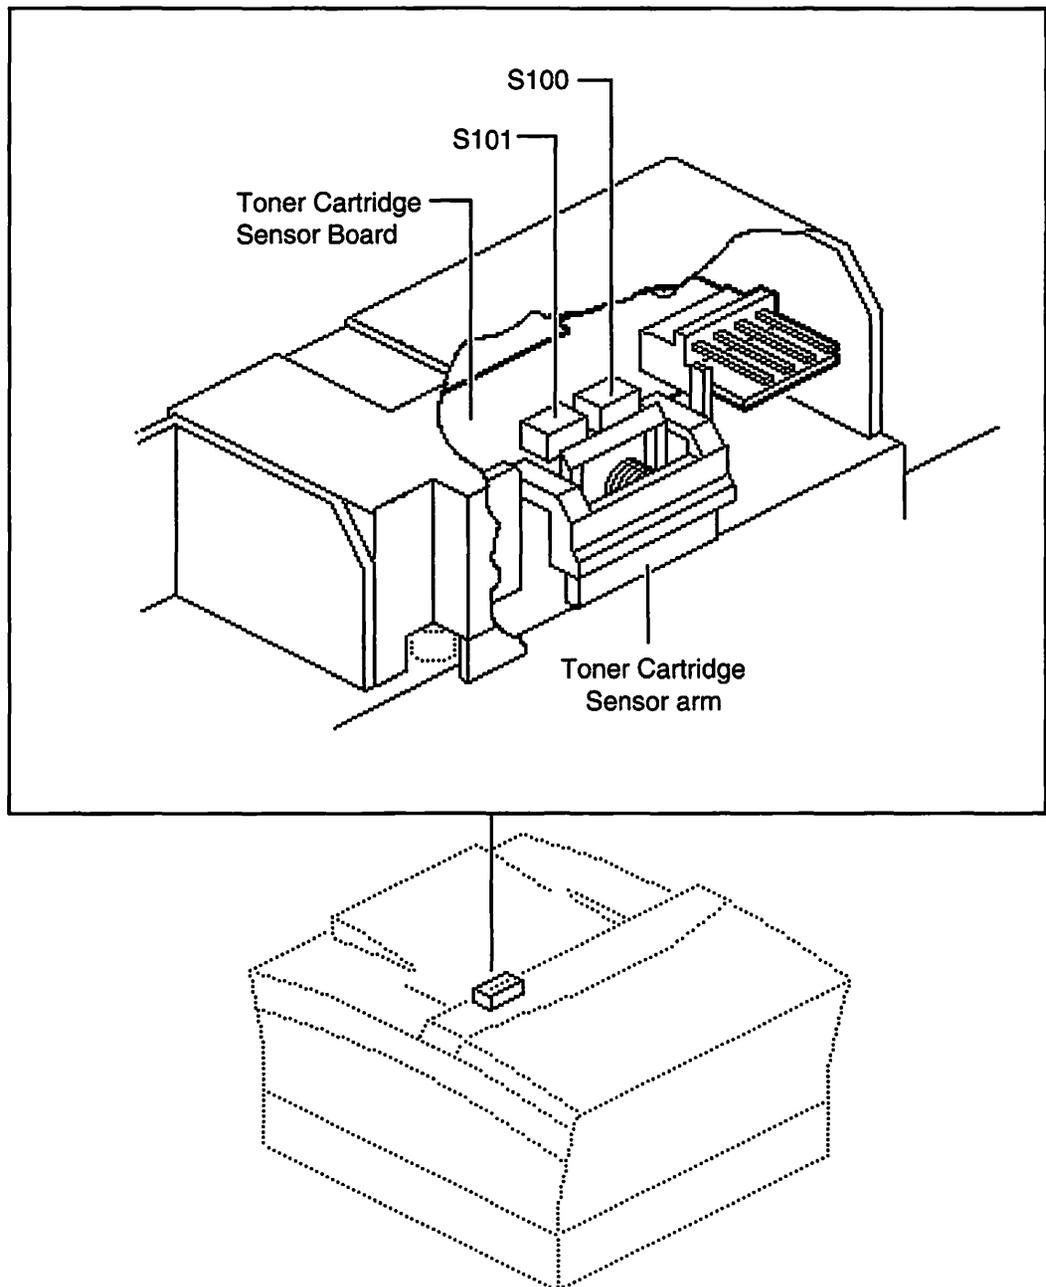

Figure 1-17
- The toner cartridge sensor assembly (see Figure 1-17) trips switches S100 and S101 when the toner cartridge is removed, cutting power to the printer and signalling the DC controller that the toner cartridge is removed.